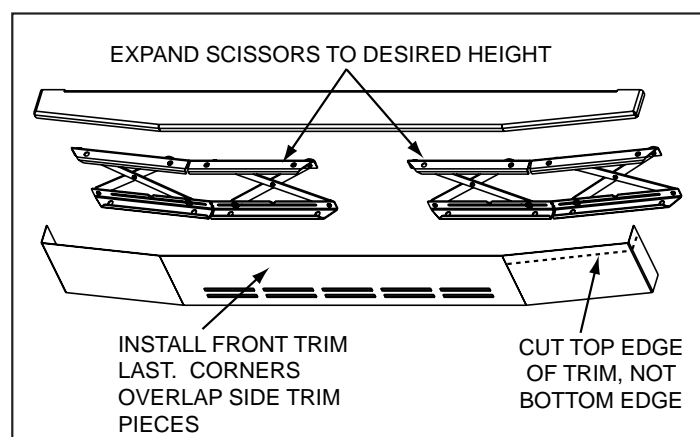

Figure 44.2
2. Expand scissors to desired height. Tighten screws to hold in place using Phillips Head screwdriver. **See Figure 44.2.**
3. Measure front and side trims to required height to cover scissors and mark pieces for cutting. Cut excess material from top of trim's edge, not bottom. This edge will be sharp; wear gloves to prevent injury to your hands. **Figure 44.2.**